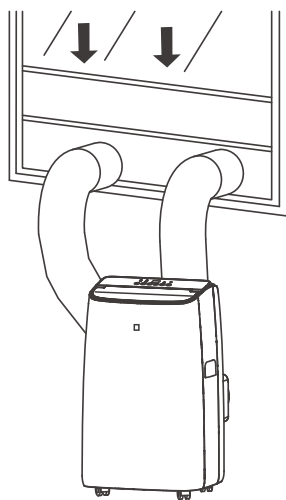

Fig.5
5. Affix the hose outlet into the window slider kit and seal. (Fig.5 &6).